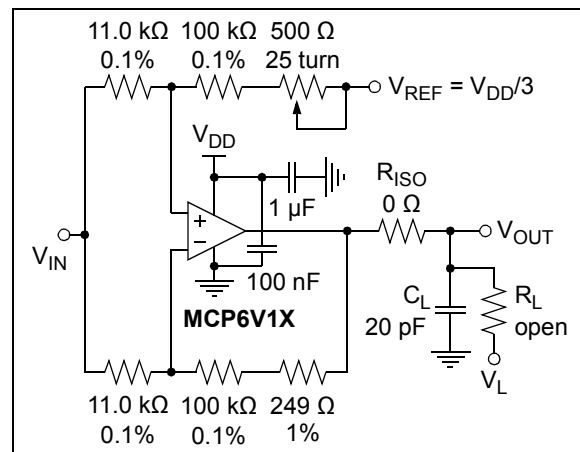

FIGURE 1-6: Test Circuit for Dynamic Input Behavior.
- Note 1:** These parameters were characterized using the circuit in Figure 1-6. In Figure 2-37 and Figure 2-38, there is an IMD tone at DC, a residual tone at 1 kHz and other IMD tones and clock tones.
The circuit in Figure 1-6 tests the input's dynamic behavior (i.e., IMD, t_{STR} , t_{STL} and t_{ODR}). The potentiometer balances the resistor network (V_{OUT} should equal V_{REF} at DC). The op amp's Common mode input voltage is $V_{CM} = V_{IN}/2$. The error at the input (V_{ERR}) appears at V_{OUT} with a noise gain of 10 V/V.